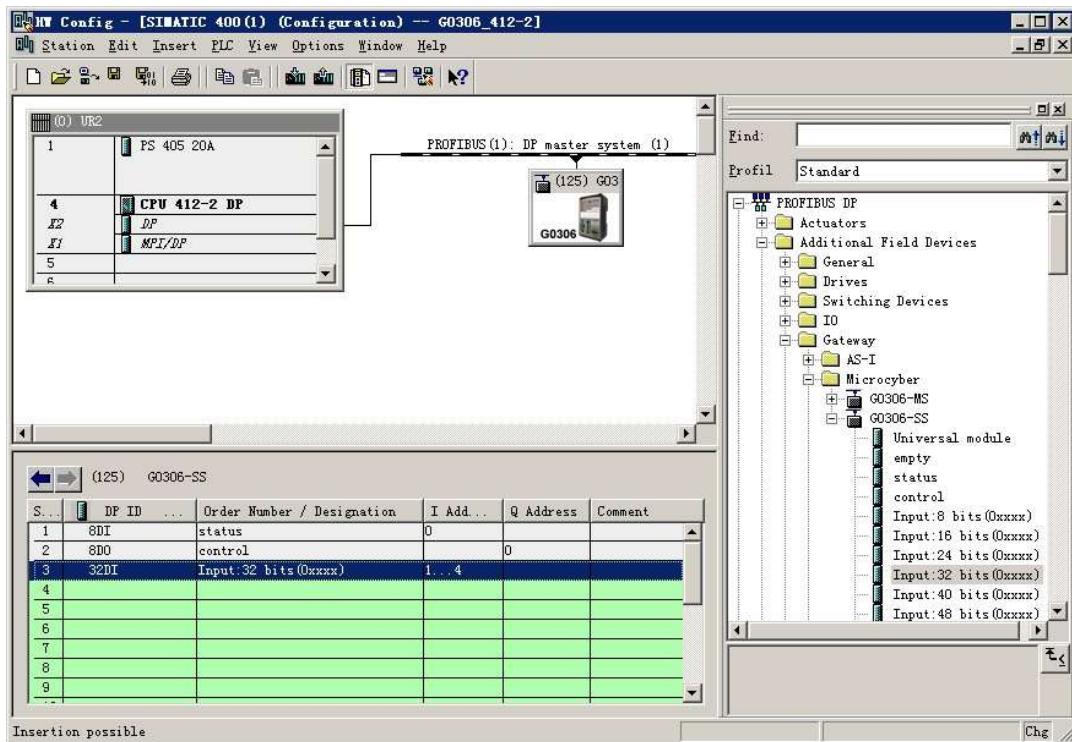

Figure 42 Add "Input:32 bits(0xxxx)" module
a) Add the "Input: 32 bits(0xxxx)" module, as shown in Figure 42: